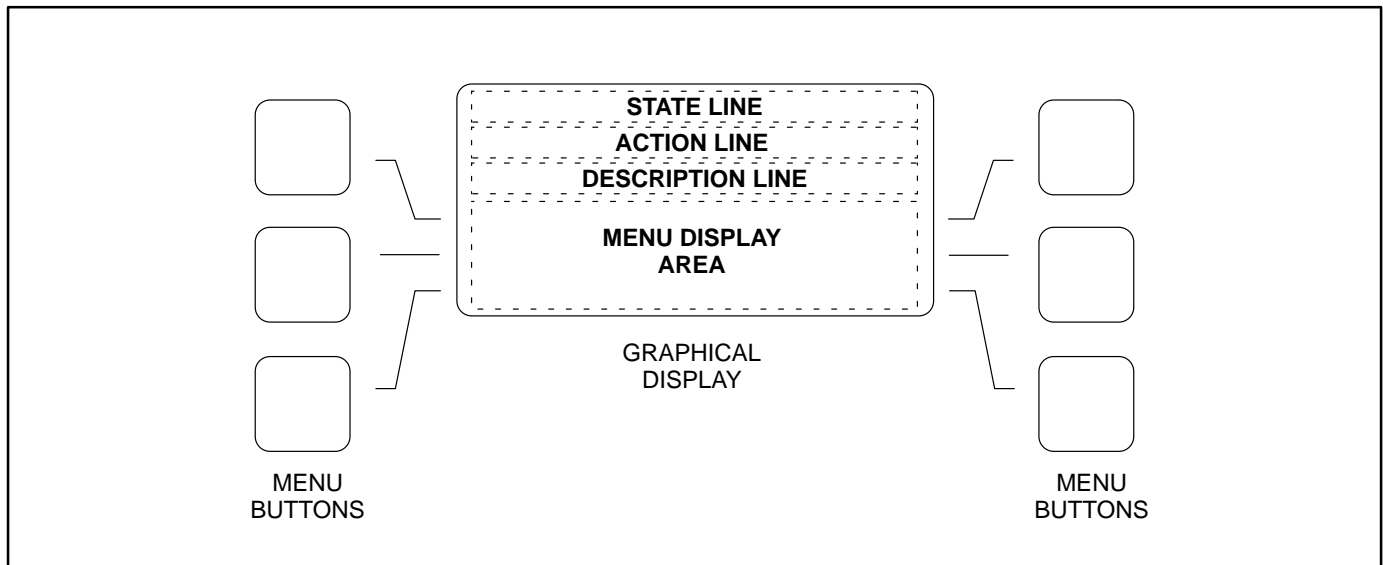

FIGURE 2-2. GRAPHICAL DISPLAY AND MENU SELECTION BUTTONS
- *State Line* - modes of operation, such as Stopped, Time Delay To Start, Warm Up At Idle, etc. (see Figure 2-2), and paralleling operations, such as Standby, Dead BUS Close, Synchronize, Load Share and Load Govern.
If the genset contains the optional graphical display and a fault occurs, the fault code/message will be displayed in the display Description Line (Figure 2-2). If the control does not contain the graphical display, the fault code is read from the Warning and Shutdown status indicators.
Figure 2-2 shows the graphical display and the menu selection buttons.